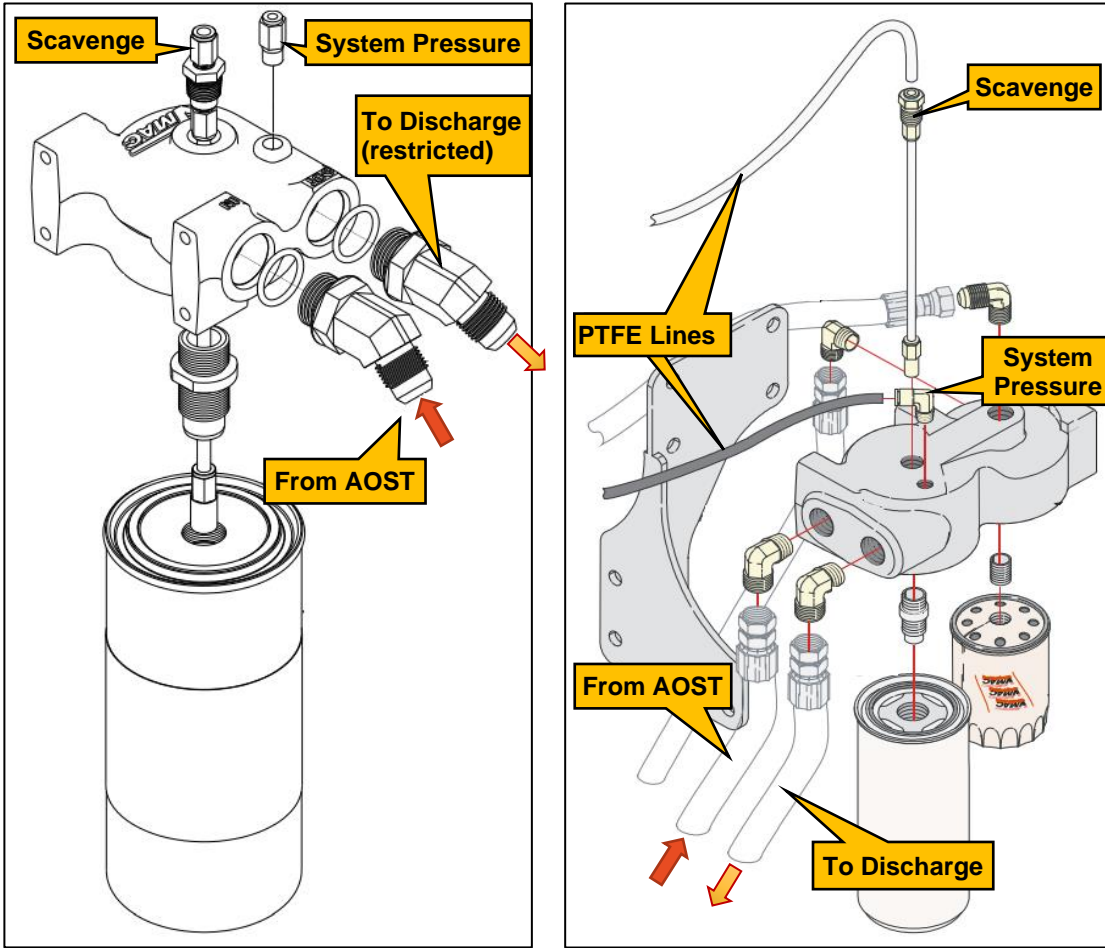

Figure 4
See Figure 4 below for a *typical installation*
- Ensure that PTFE lines are installed as per the Owner’s Manual for your specific VMAC system. See Figure 4 above for examples of *typical installation* . To find and refer to the owner’s manual for your specific system go to <https://www.vmacair.com/support/manuals/> under Lincoln Air Vantage Manuals.